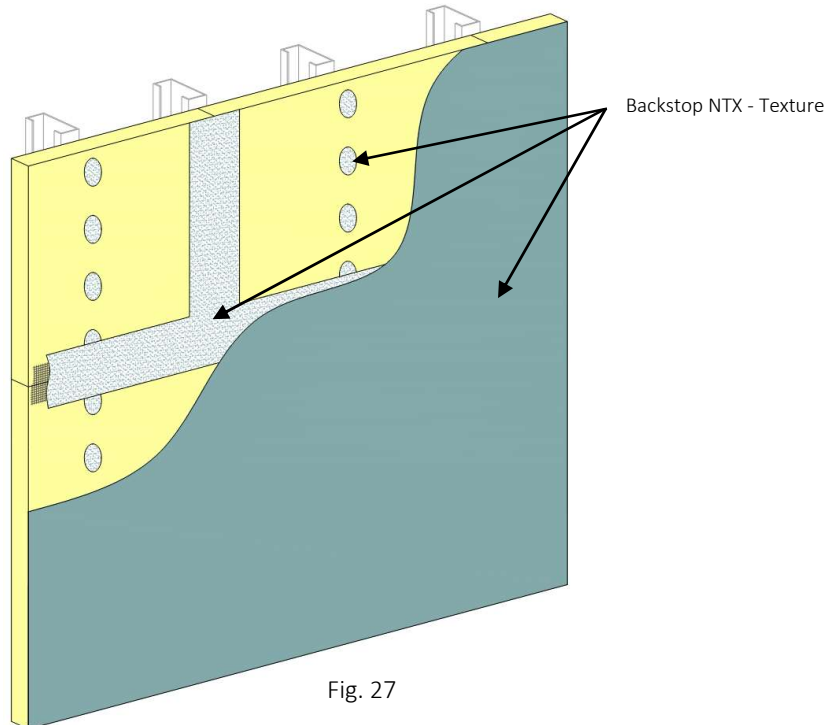

Fig. 27
- a. Use a coarse, open-cell foam roller cover with a 3/8 in (9.5 mm) foam nap (FoamPRO #58 roller). Apply a uniform, continuous film of Backstop NTX – Texture over the entire surface of the sheathing, concrete or masonry, including the previously treated areas – **Figure 27**.